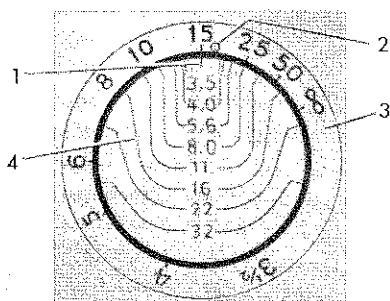

Figure 14—Depth-of-Field Scale
If infrared film is used, determine the camera-to-subject distance with the range finder, then move the focusing collar to bring the figure representing the distance for which the lens is focused to the *red dot* (2, figure 14) on the focusing scale. This is necessary because infrared rays come to a focus slightly behind the focus of visual rays.
(2) Under some conditions, it may be desirable to estimate distance and focus the lens through reference to the focusing scale. This method is seldom used unless the subject is 10 or more feet away from the camera, since at the shorter distances the depth of field is relatively restricted. Estimate the distance and then turn the focusing collar until the figure representing the camera-to-subject distance is at the index mark (1, figure 14) of the focusing scale.
(3) The depth-of-field scale (4, figure 14) tells at a glance the depth that will be obtained at the distance focused on. To find the depth of field for a given distance and lens opening, read the distances on the outside ring at the lines coming from the chosen *f*/number on the circular scale. For example: If the camera is focused for 15 feet and *f*/5.6 is used, everything from about 11 feet to about 20 feet will be sharp; with *f*/11, everything from about 9½ feet to 35 feet will be sharp. (See figure 14.)